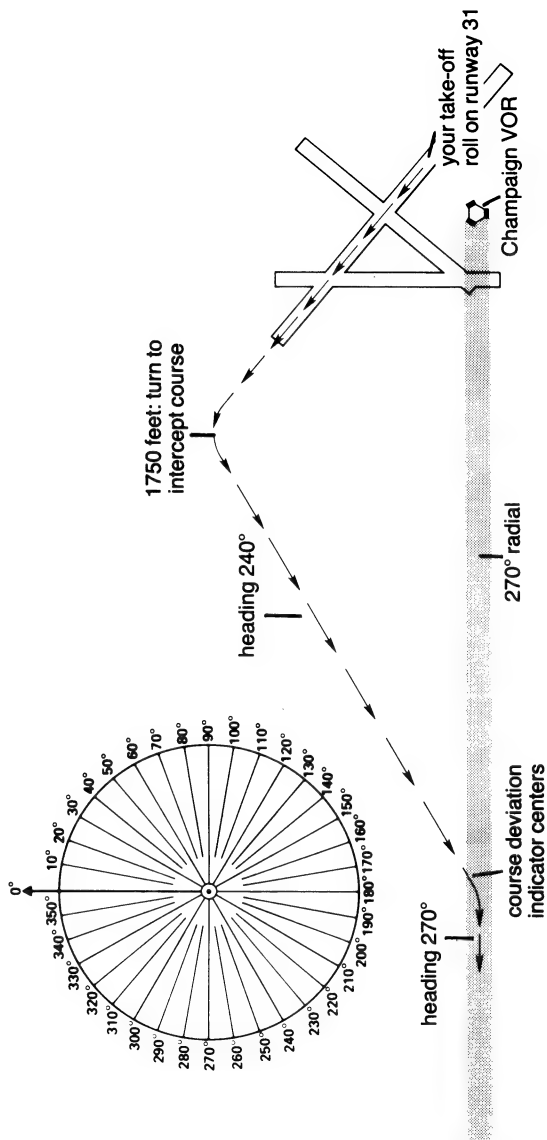

Figure 22. VOR Navigation Departure
3. You are going to takeoff from runway 31. After you reach 1750 feet MSL, start a left turn to 240 degrees to intercept the 270-degree radial from Champaign VOR. As the needle (course deviation indicator) begins to center, turn to a heading of 270 degrees to track the 270-degree radial (since there is zero wind). See Figure 22.
Mastering VOR navigation requires the correct frame of reference; when the needle shows LEFT, for example, it does not mean that you should turn left. It indicates that you should take a heading to intercept your course, a heading left of the omni-bearing selection. Over time you will internalize the art of choosing an intercept heading, but for now (with no winds) choose a 30-degree intercept. Consult the compass rose in Figure 22 when in doubt of the correct heading to choose.